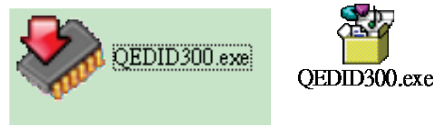
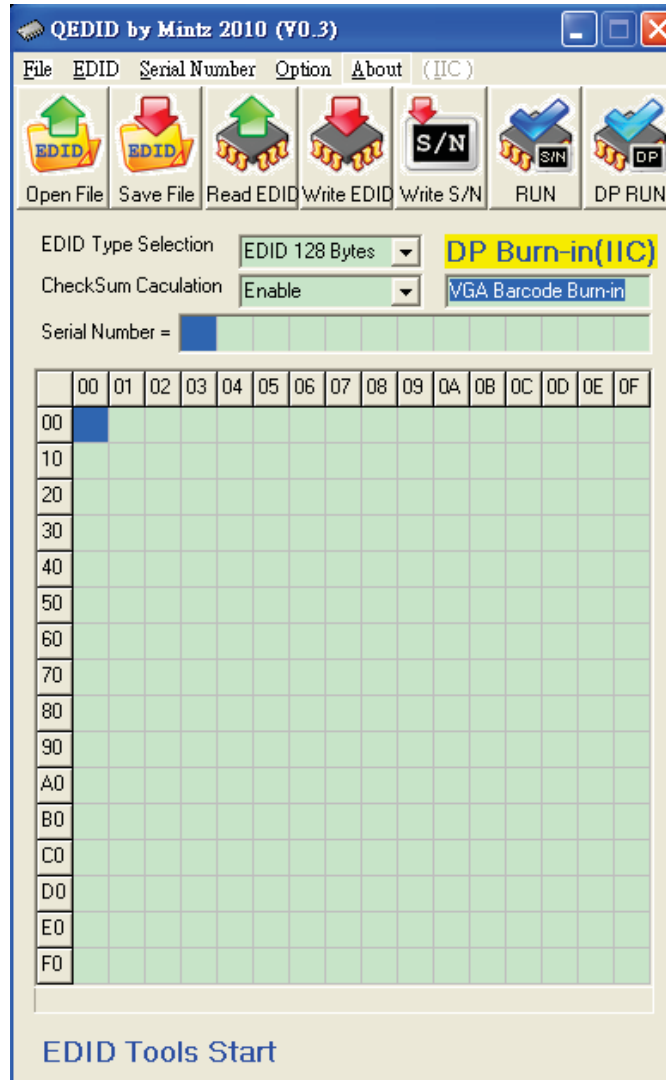

Fig.3
Fig.4
Step 1: Open Q-EDID **V030** Software into your folder as shown in Fig.3. and Fig.4.